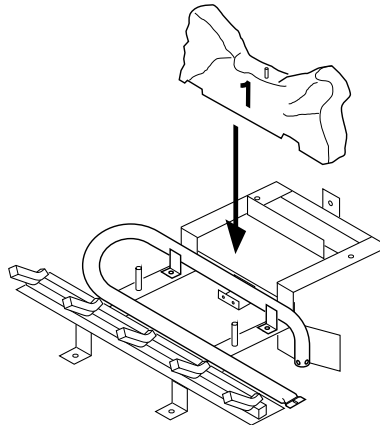

Figure 47 - Installing Log No. 1
1. Place log #1 (back log) on top of grate. Make sure the notches in the bottom of the log fit over the grate (see Figure 47).